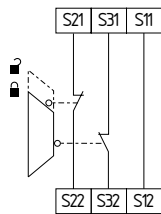

Fig. 8
**Dual-channel guard door monitoring circuit with interlocking device to EN ISO 14119 (see Fig. 8)**